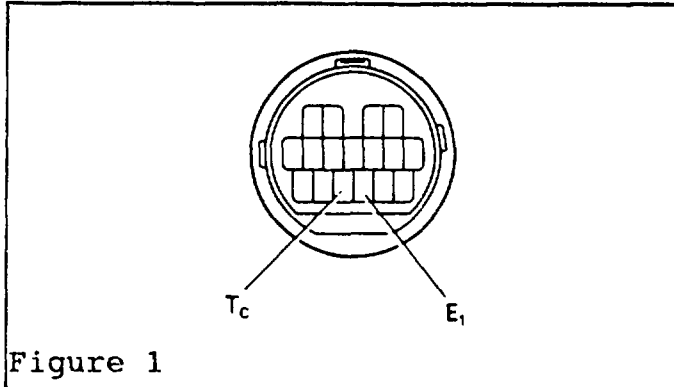

Figure 1
- o Connect terminals Tc and E1 of the TDCL connector (figure 1) together with SST 09843-18020.